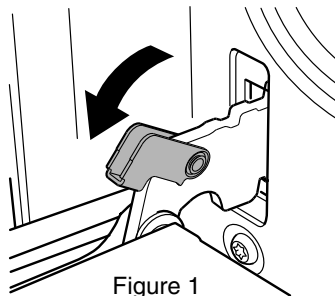

Figure 1
- To remove the door, open the door to the maximum angle. Then pull the buckle at the door hinge backward. (Figure 1)